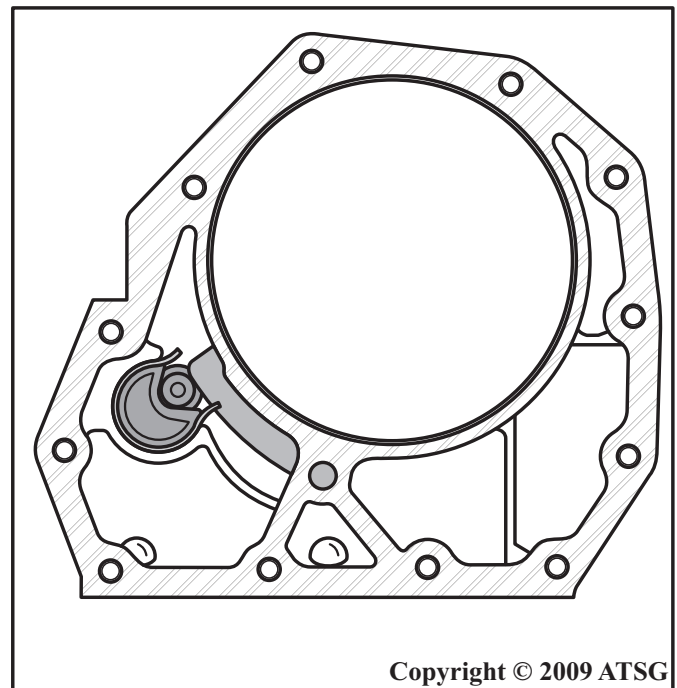

Figure 49
3. Install the park rod guide retaining snap ring into the case using a pair of pliers and insure that it is seated in the groove (See Figure 49).